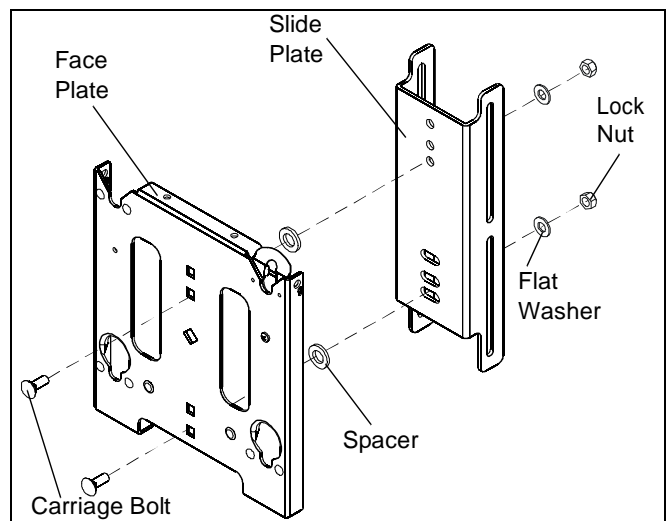

Figure 4
2. Remove face plate from slide plate assembly by removing two 3/8"-16 x 1" round head carriage bolts, two 1" OD x .563 ID spacers, two 3/8" flat washers, and two 3/8-16 lock nuts. (See Figure 4)
3. Reinstall face plate into upper mounting holes of slide plate using two 3/8"-16 x 1" round head carriage bolts, two 1" OD x .563 ID spacers, two 3/8" flat washers, and two 3/8-16 lock nuts removed in Step 2. (See Figure 4)